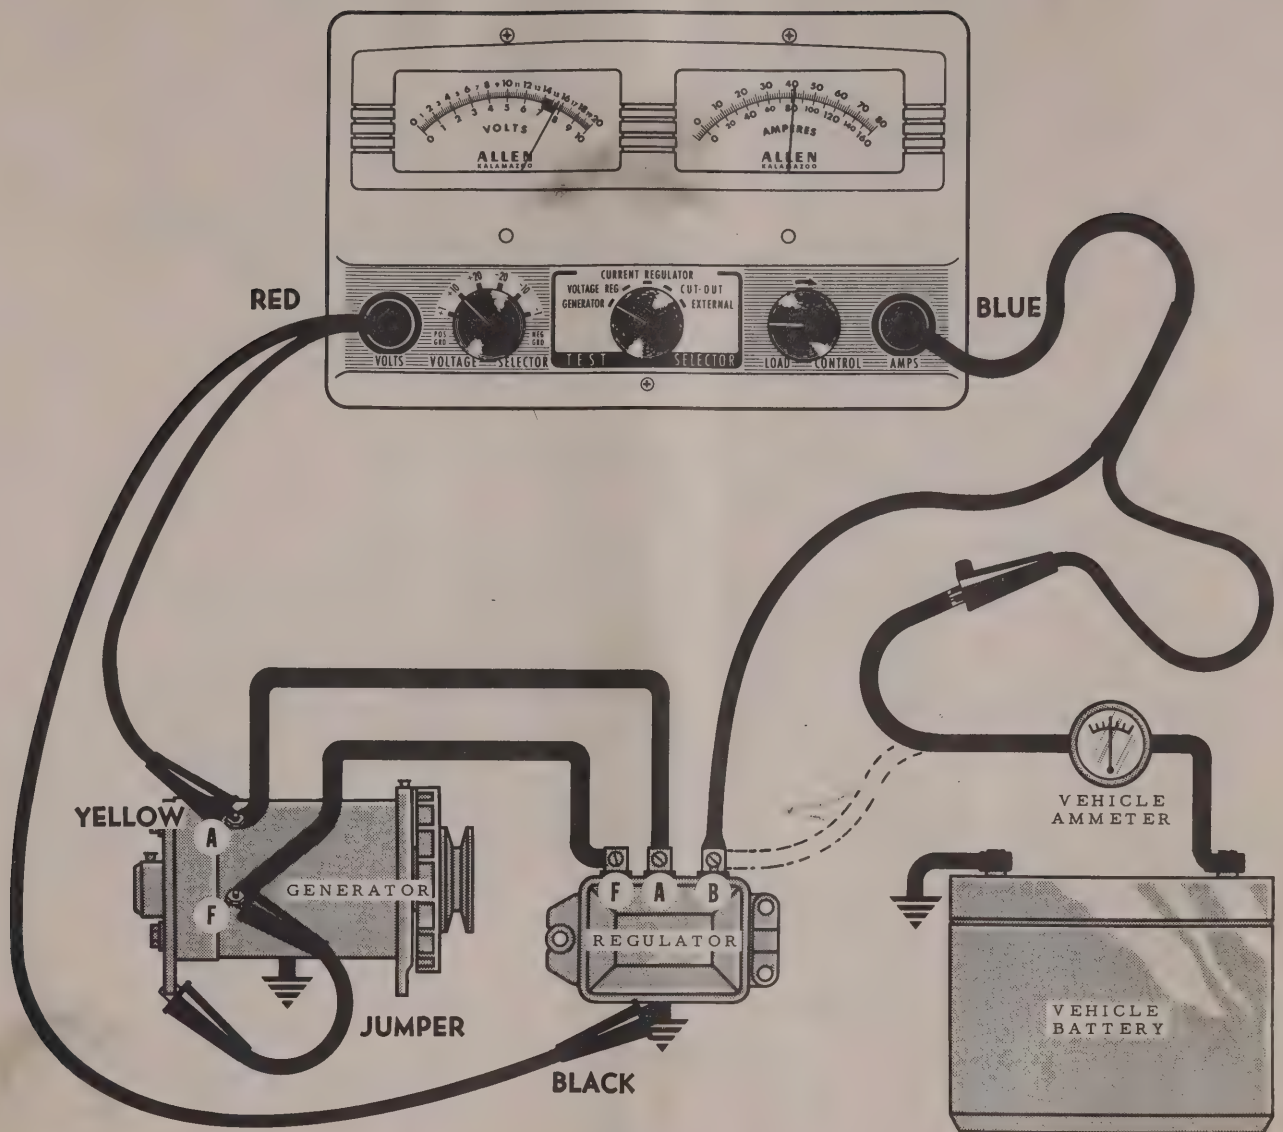

FIG. 2
1. Turn Test Selector to GENERATOR position, Figure 2.
3. Make connections as shown, Figure 2. Prevent regulator from operating, by connecting JUMPER lead from generator "F" (field) terminal to generator frame on generators with EXTERNALLY grounded fields. For INTERNALLY grounded field generators, such as, FORD PRODUCTS, connect the JUMPER between the generator "F"(field) terminal and "A" armature terminal.